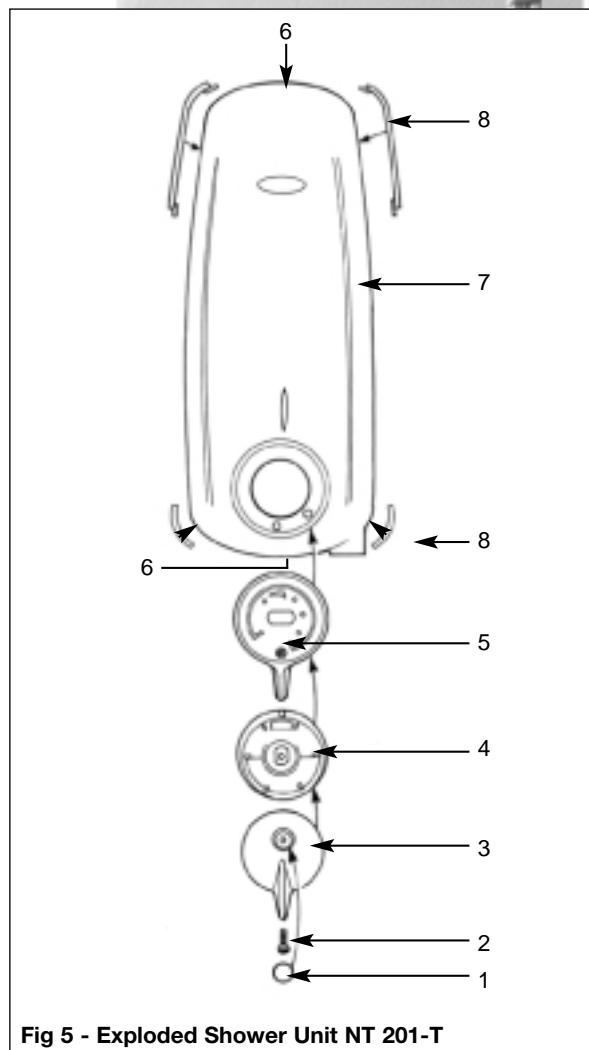
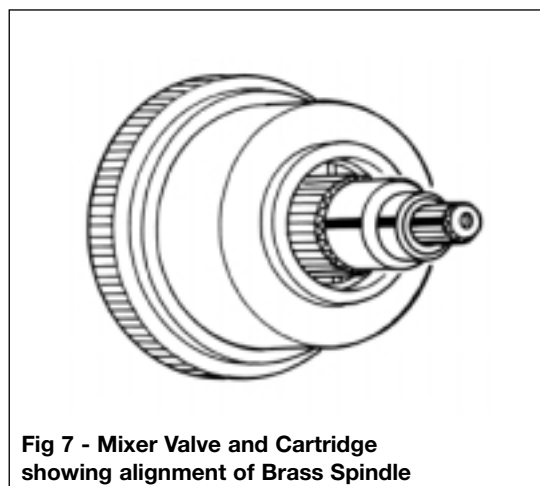

Fig 5 - Exploded Shower Unit NT 201-T
Fig 7 - Mixer Valve and Cartridge showing alignment of Brass Spindle
Procedure: Fig 5.
15. Refit the flow lever (5. Fig 5.) ensuring that the two protruding legs on the back of the lever locate on the two flats of the cartridge.
16. With the black line (Thermostatic valve only) on the brass spindle in line with the groove on the cartridge, place the over-ride assembly (4. Fig 5.) onto the valve with the red button aligned with the white dot on the flow lever, (Fig 7).
17. Fit the temperature control lever (3. Fig 5.) with it aligned with the flow lever.
18. Fit and tighten the fixing screw (2. Fig 5.) and push on the cover cap (1. Fig 5.).